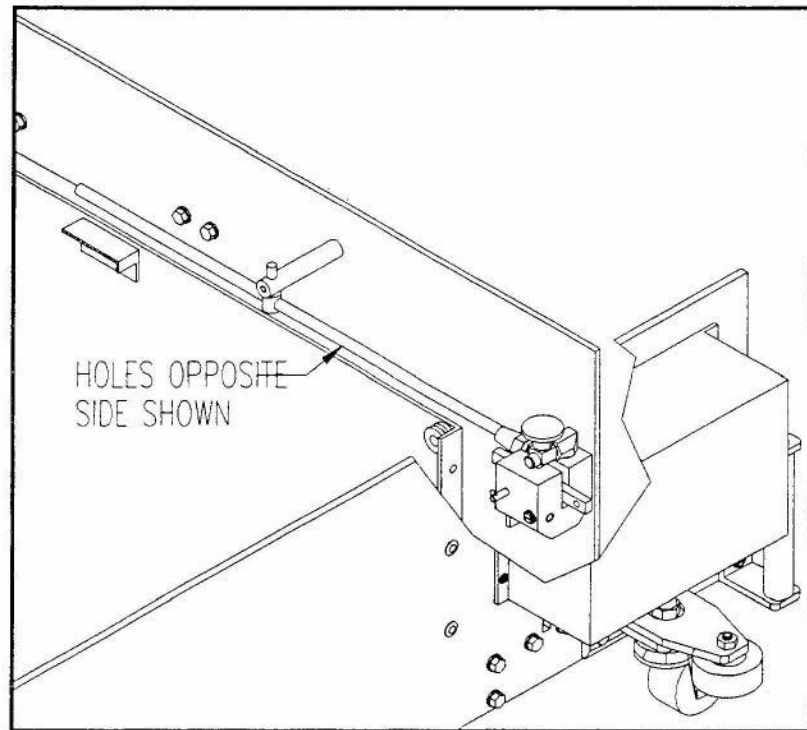

Figure 16
- The cleaner flows out of the cleaner manifolds into the cleaner tray. The holes in the manifolds should face toward the pin deck at an approximate 45 degree angle downward. The exact angle is somewhat different for different cleaners because of different surface tensions. See Figure 16.